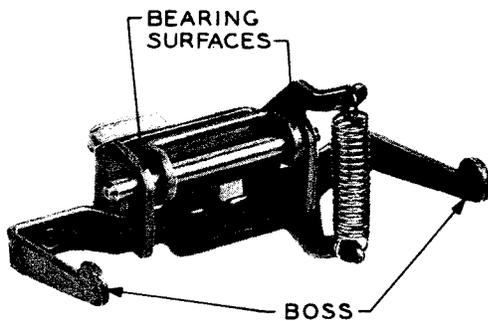

Fig. 3 — Operating Bracket Switch Assembly
**4.02** To eliminate binding or squeaking, clean the bosses on operating bracket arms, spring anchor points, operating bracket, and shaft bearing points with a KS-2423 cloth moistened with KS-7860 petroleum spirits. Lubricate the bearing surfaces with a No. 2 or softer graphite pencil. (See Fig. 3.)